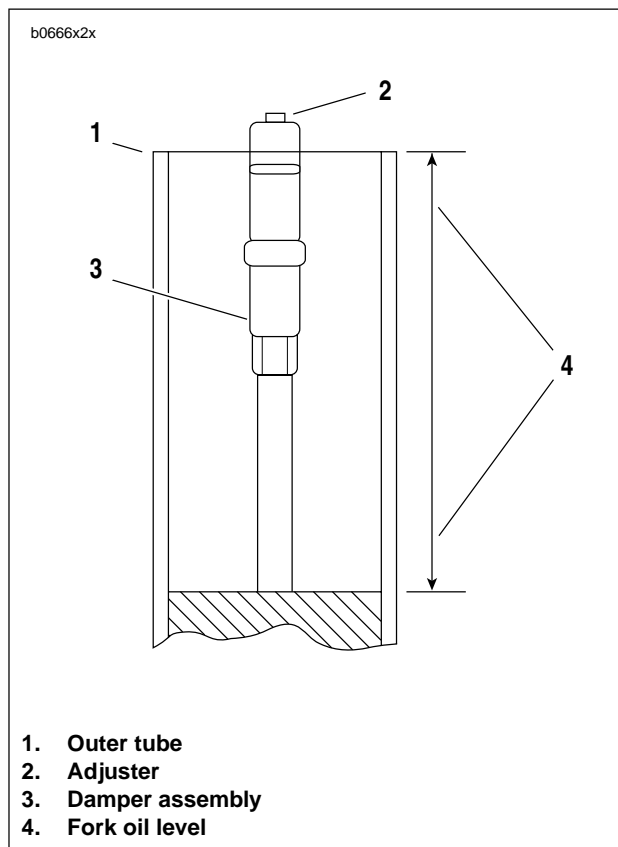

Figure 2-70. Measuring Fork Oil Level
17. See Figure 2-70. Adjust fork oil level with FRONT FORK OIL LEVEL GAUGE (Part No. B-59000A) so that it is 4.6 in. (118 mm) from the top of the fork tube.